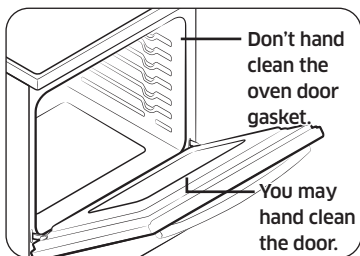

Fig. 2
- Do not clean the gasket. The fiberglass material of the oven door gasket cannot withstand abrasion. It is essential for the gasket to remain intact. If you notice it becoming worn or frayed, have it replaced. (Fig. 2)